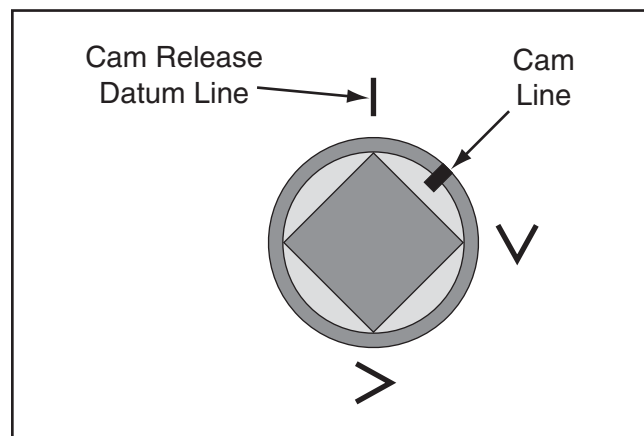

Figure 41. Camlock rotated clockwise halfway to first "V" mark.
7. Rotate one camlock clockwise so that the cam line is halfway between the datum line and the right-hand "V", as illustrated in **Figure 41**.